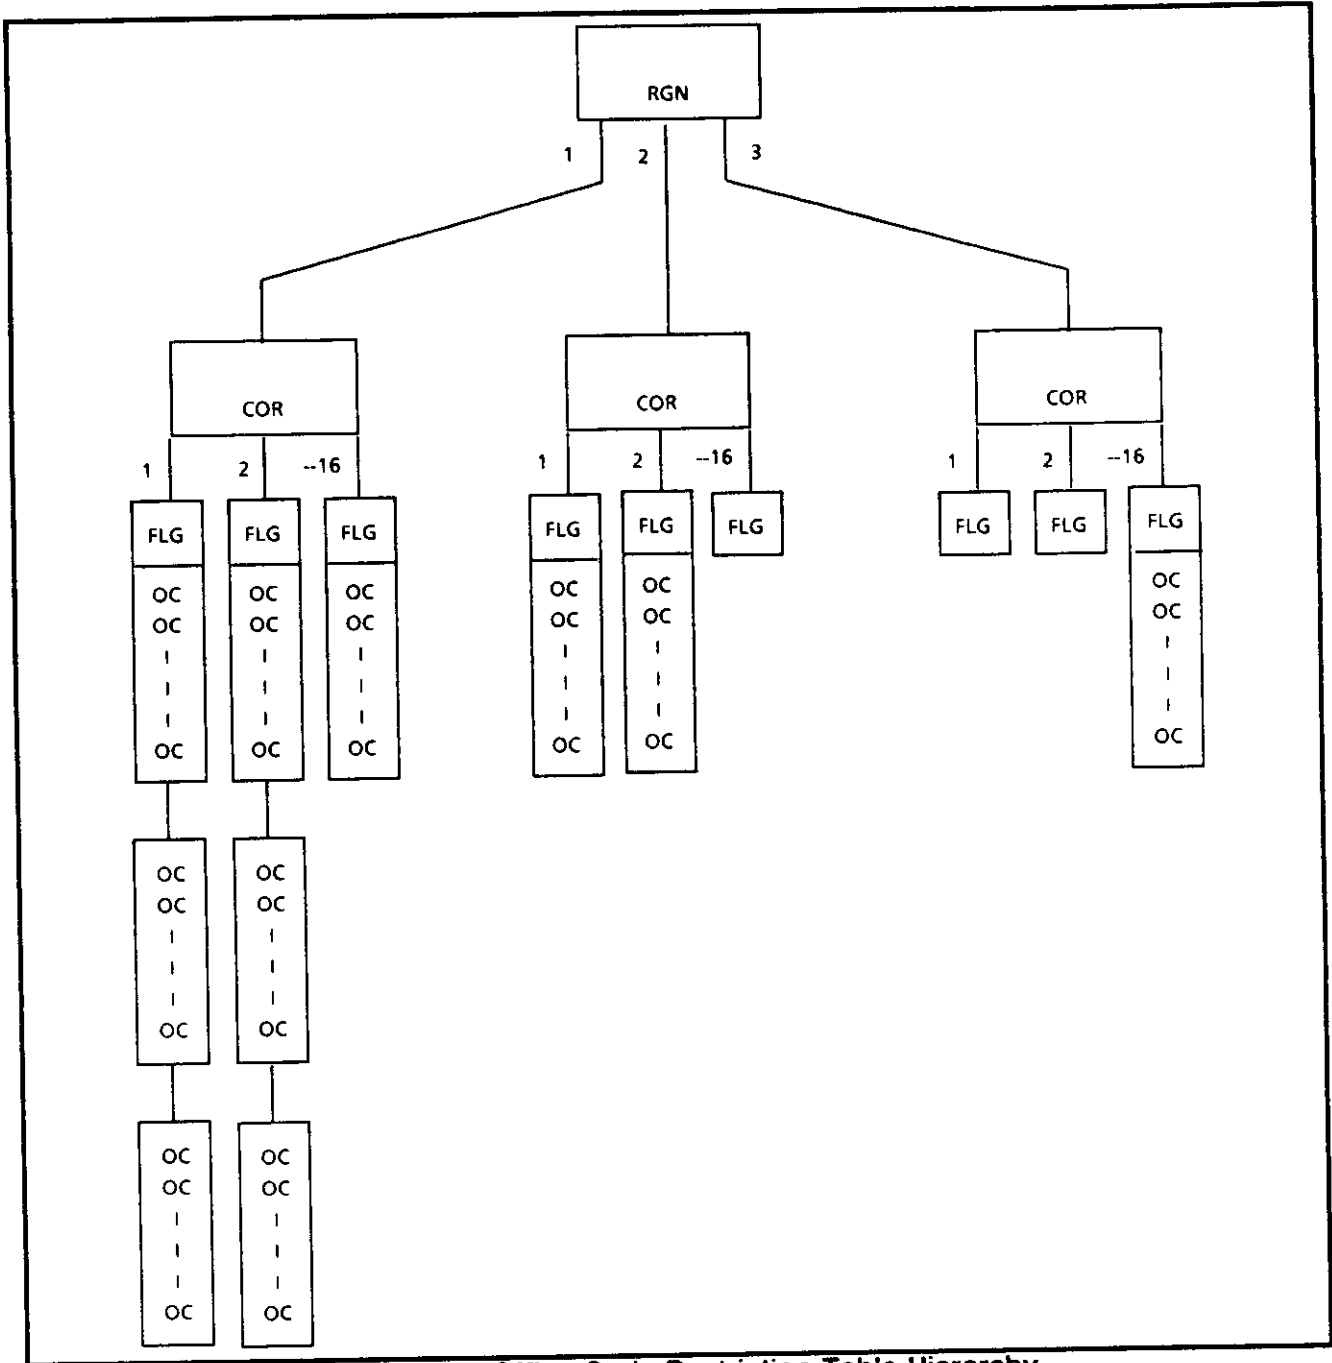

Figure 4.19 Office Code Restriction Table Hierarchy.
4.63 The Office Code Restriction Assignment (CMC 412) table is used to create a list of office codes to which connections are allowed or denied for each class of restriction within a restriction group. Figure 4.19 shows the hierarchy of this table's organization. This CMC requires a HIGH level security code.